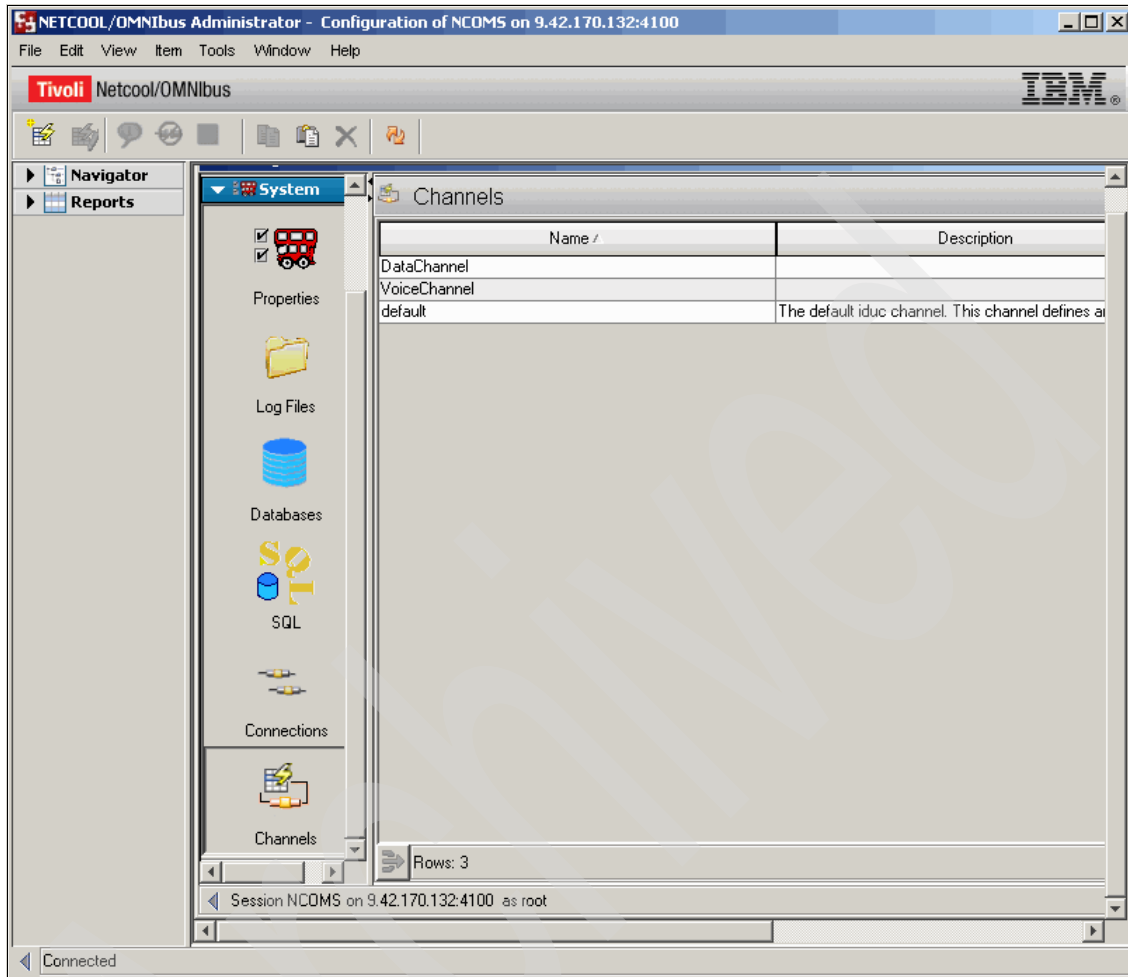

Figure 4-58 Administration console Channels tab
- a. From the IBM Tivoli Netcool/OMNIbus Administrator window, select **System** → **Channels**, as shown in Figure 4-58 on page 165.